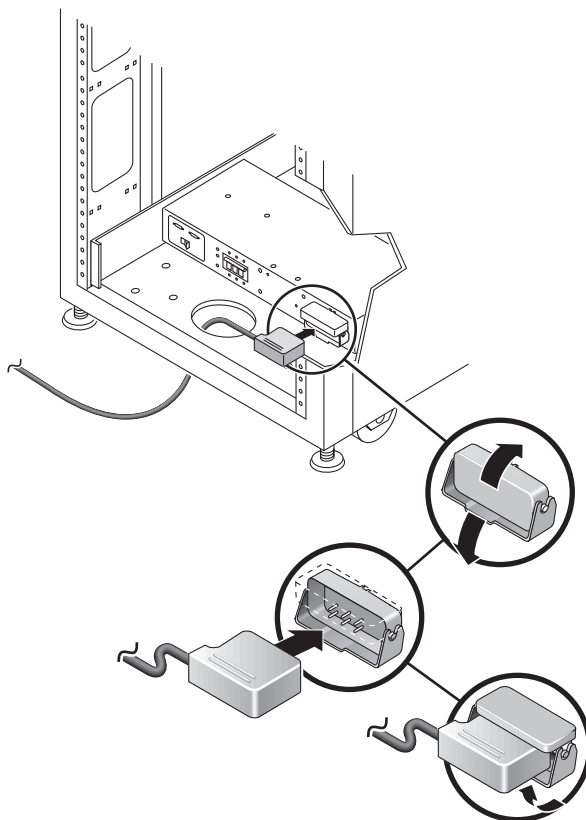

FIGURE B-8 Connecting the Power Cables
4. Connect each power cable to the front and rear power sequencers of the base cabinet (FIGURE B-8):